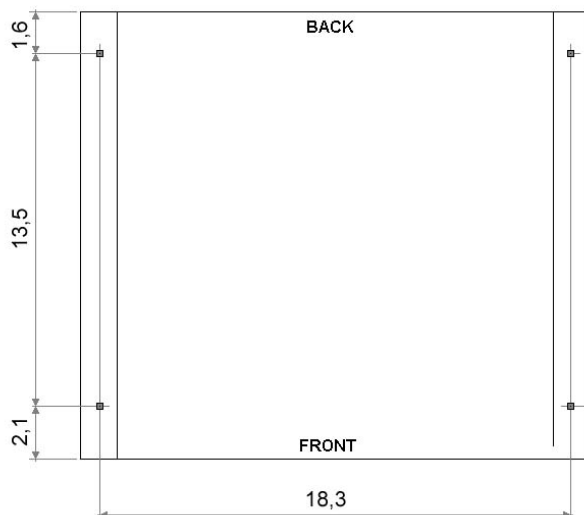

Figure 4- 2 Bolt Pattern for SVS-80 Installation (Dimensions in Inches)
- Install on a cement pad minimum 7" above surrounding curbing or walkways for water flood control, see Figure 4- 1
IMPORTANT INFORMATION – SAVE THESE INSTRUCTIONS**Figure 4- 1 SVS-80 Installation**